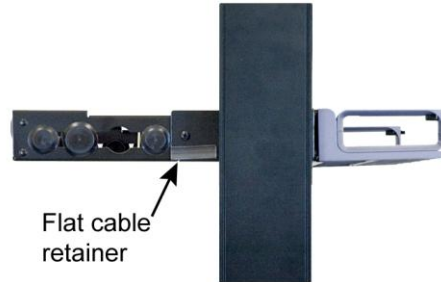

Figure 8 Installing the Flat Cable Retainer on the Outside of the Shelf
3. If the shelf is a fixed shelf, install one flat cable retainer on the outside of the shelf as shown (Figure 8).